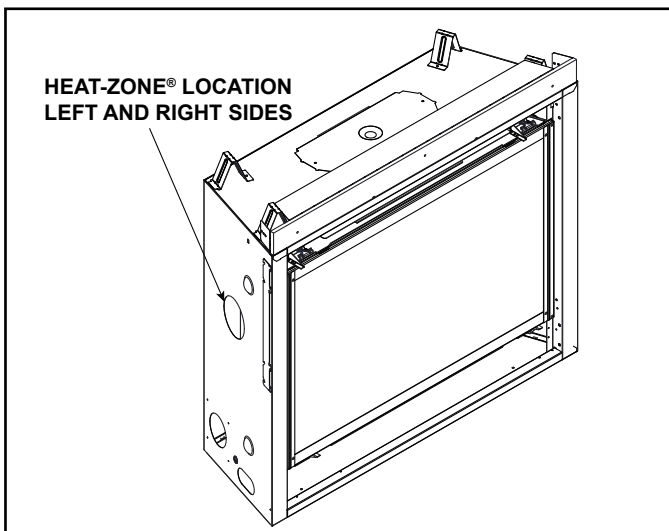

Figure 6.17 Heat-Zone® Locations
- Locate the Heat-Zone® ports on the left and right sides of the appliance. Either one or two Heat-Zones® may be installed. See Figure 6.17. Remove the knockouts from the appliance with a tin snips.